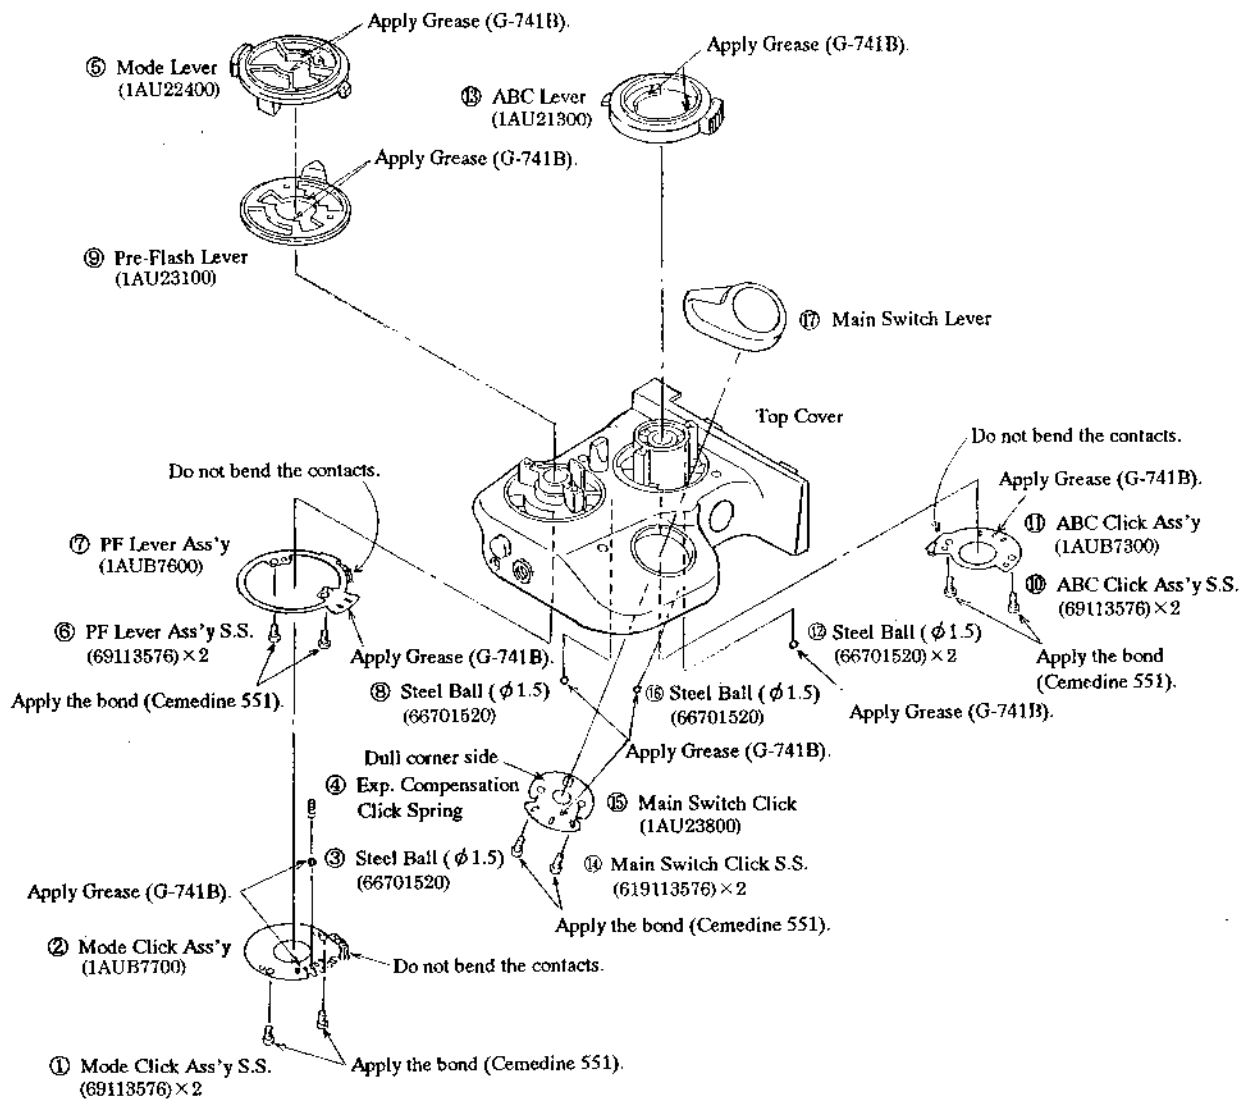

Fig. 23
2) Remove the parts in the numerical order of ① to ⑰ as shown in Fig. 23.